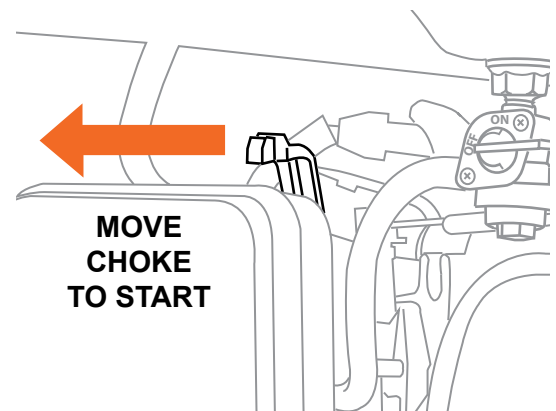

Figure 2
3. Turn the engine's choke lever to the START position (see Figure 2). Set the choke lever to the run position only when the engine has started or upon restarting a warm engine.